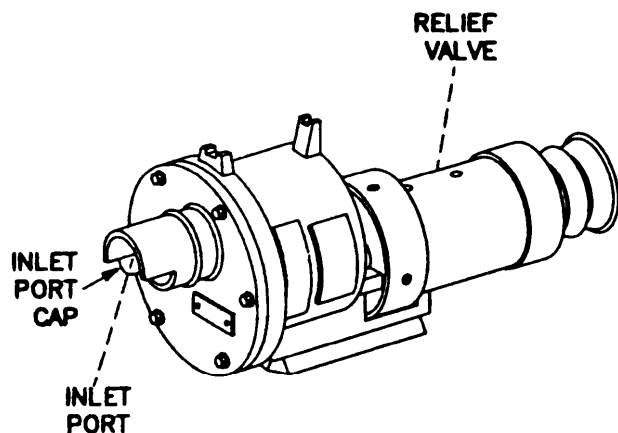

Figure 3-77 M90A2 Straight Telescope
a. M90A2 Straight Telescope (fig. 3-77).